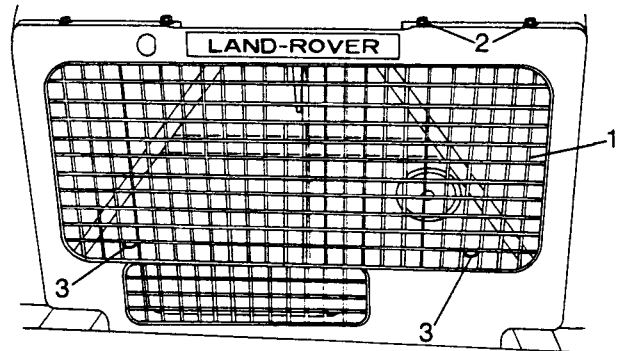

Fig M3.12
- (4) Refer to Fig M3.12. Place the grille panel (1) into position and secure with the four screws (2) at the top.
- (5) Fit the coarse mesh grille and replace the two screws (3) securing this to the grille panel.
- (6) Replace the fine mesh grille and secure with the wing nuts.